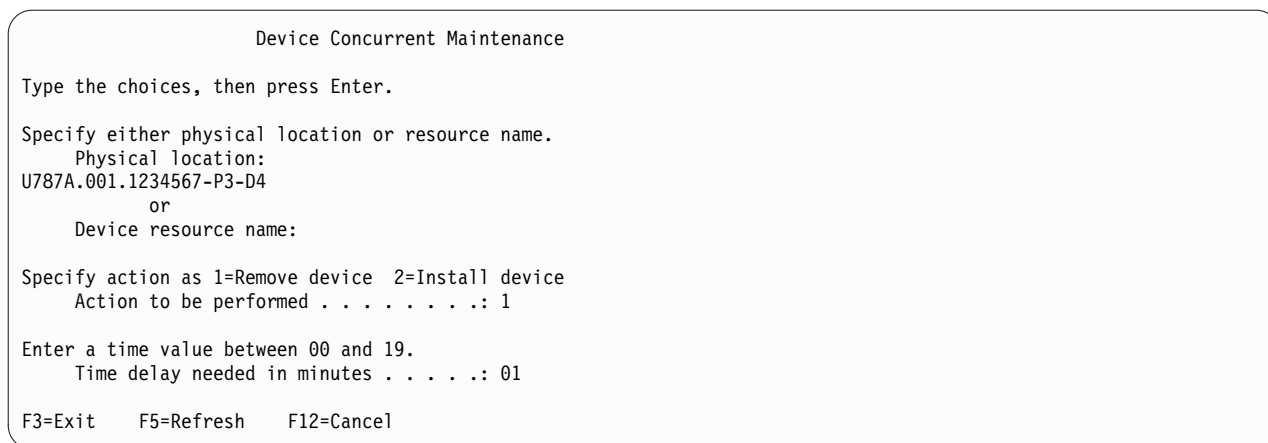

Figure 34. Example Device Concurrent Maintenance display
12. From the Hardware Service Manager, navigate to **Select Device Concurrent Maintenance** option. Press Enter. The Device Concurrent Maintenance display is shown, as shown in the Figure 34.